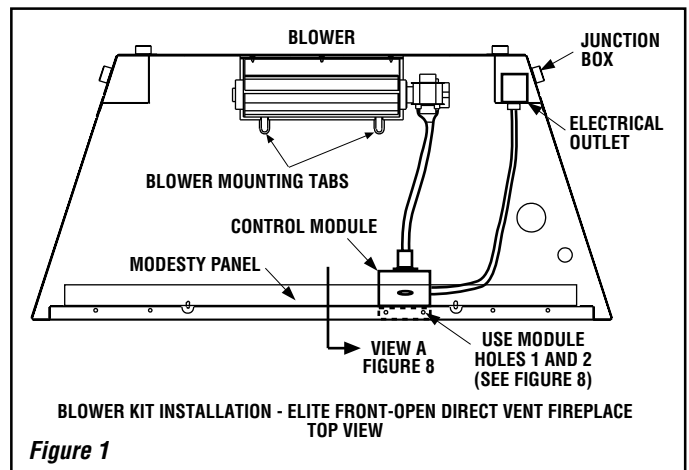
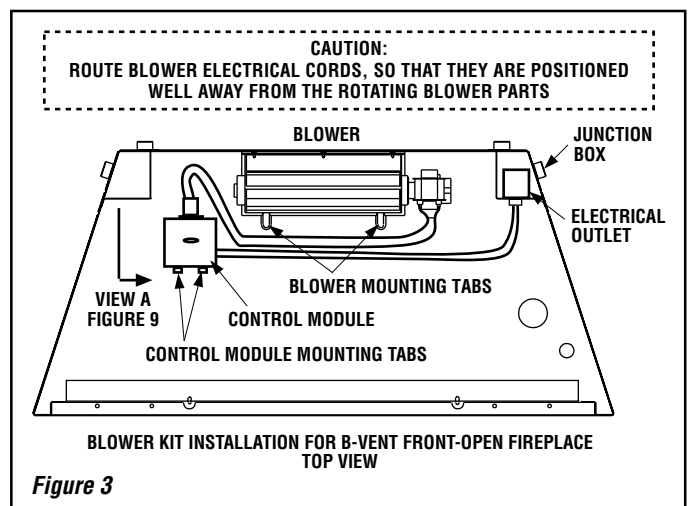

Figure 1
Figure 3
Slide the blower assembly through the front opening to the middle rear area of the cabinet base. Position the blower assembly so that the tabs (located on the cabinet base) are seated in the notches of the blower bracket. Then bend the tabs over to secure the blower assembly. See **Figure 1, direct vent models; Figure 3, B-vent models.**
- a** - see **Figure 1** for Elite-2 Front -open units;
B-vent units - There are two module mounting tabs located on the cabinet base just to the left/front of the blower, as shown in **Figure 3**. Bend these tabs up, 90 degrees. Place the control module behind the vertical tabs as shown in **Figure 3** and secure the module to the tabs with the two screws provided in this kit.